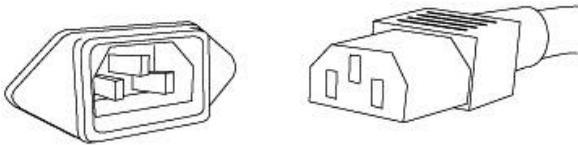

FIGURE 4
Connect the Detachable Power Cord to the Amp 1 AC Power Cord Socket (H) (see Figure 4). Plug your Amp 1 into the AC power source.